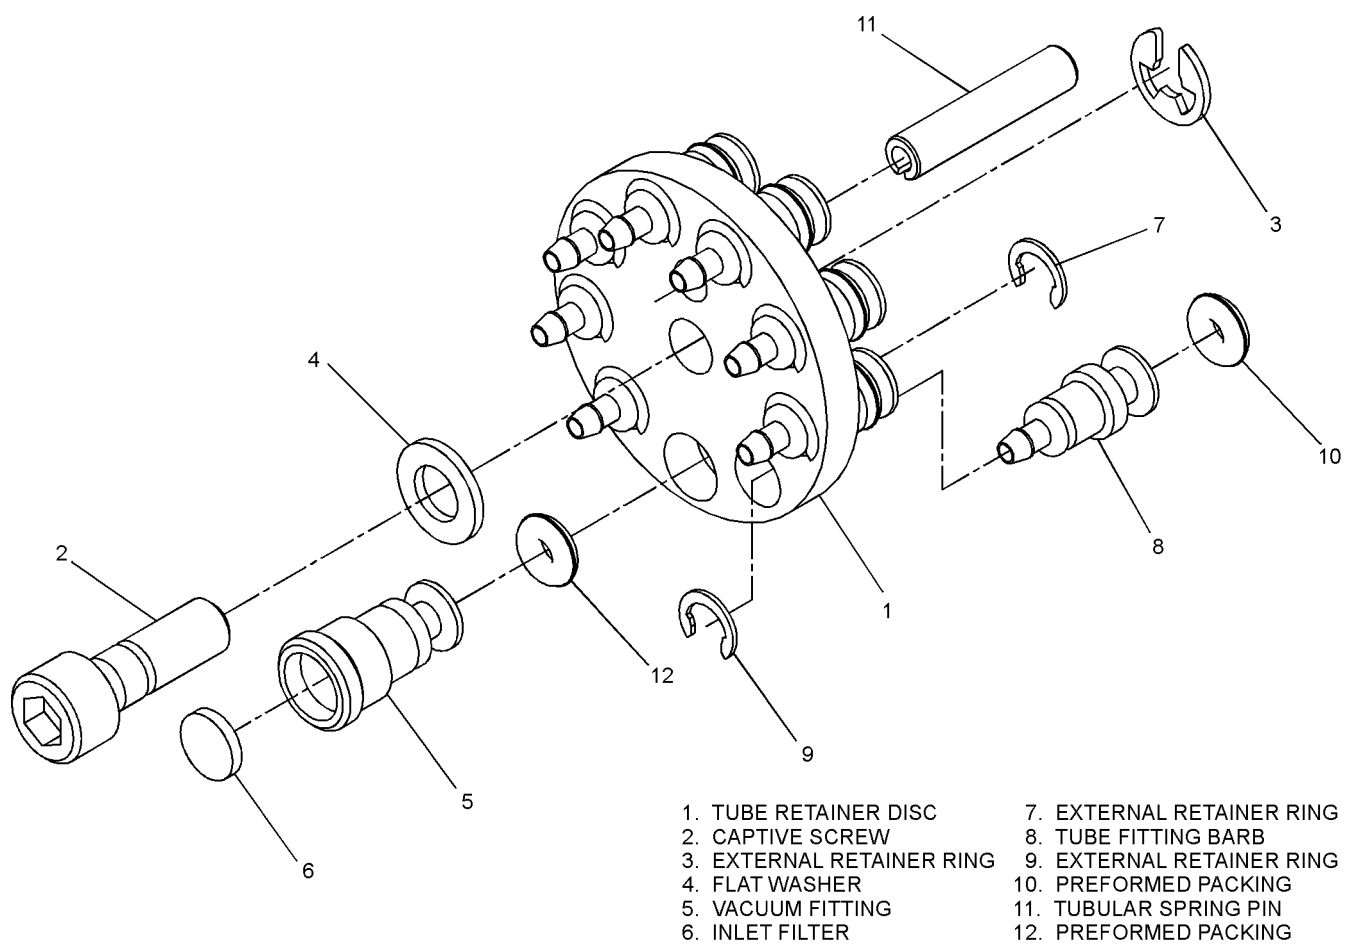

Figure 9-18. Tube Fittings Disc Assembly, P/N 1653870-1 Removal/Assembly
1. If not previously removed, remove tube fitting disc assembly (7) from back of the controller/monitor assembly (1) by loosening captive screw (8) to force tube fitting disc assembly (7) away from controller/monitor assembly (1), then pull tube fitting disc assembly (7) back as necessary to disconnect pneumatic lines from controller/monitor assembly (1).
2. Remove eight labeled plastic tubings (58 through 65, figure 9-11) by gently pulling from eight tube fitting bars (8, figure 9-18). Inspect eight labeled plastic tubings (58 through 65, figure 9-11) for cracks or distortion and replace as required.
Index numbers refer to figure 9-18 unless otherwise noted.